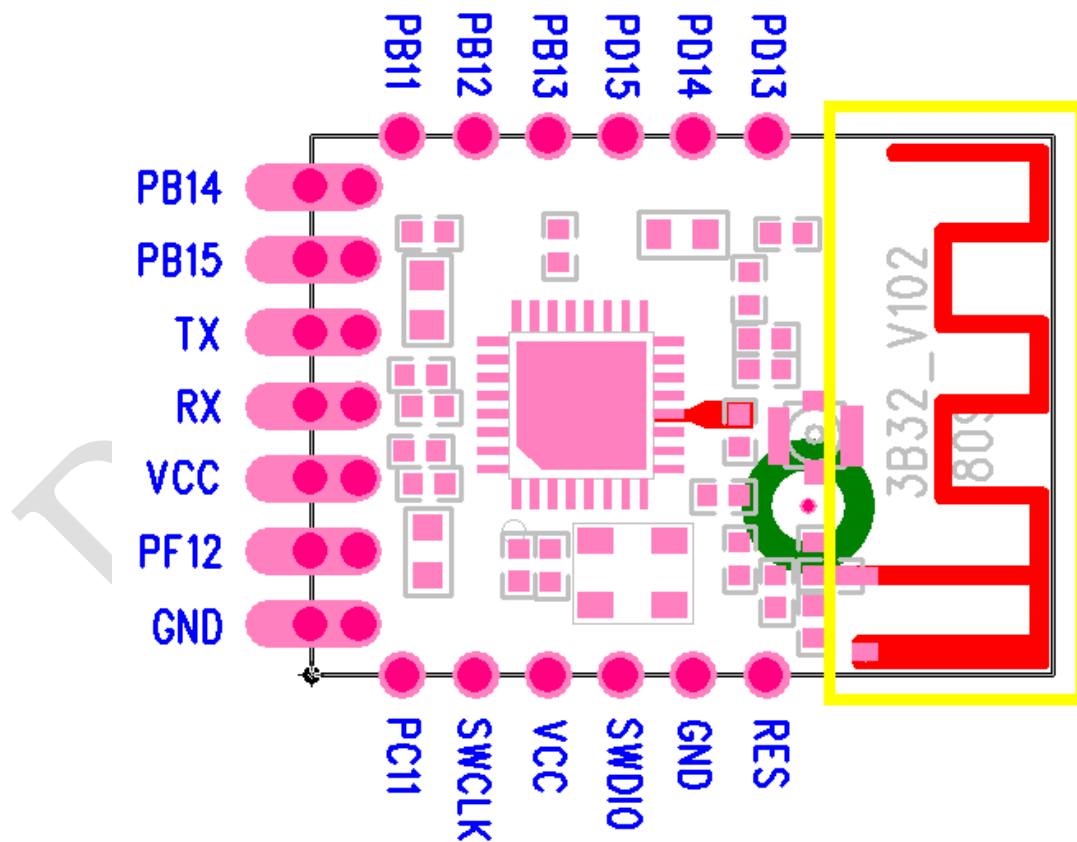

Figure 4
- 3, Hollowing out the yellow pane part (figure 4) to make less S11 interference.